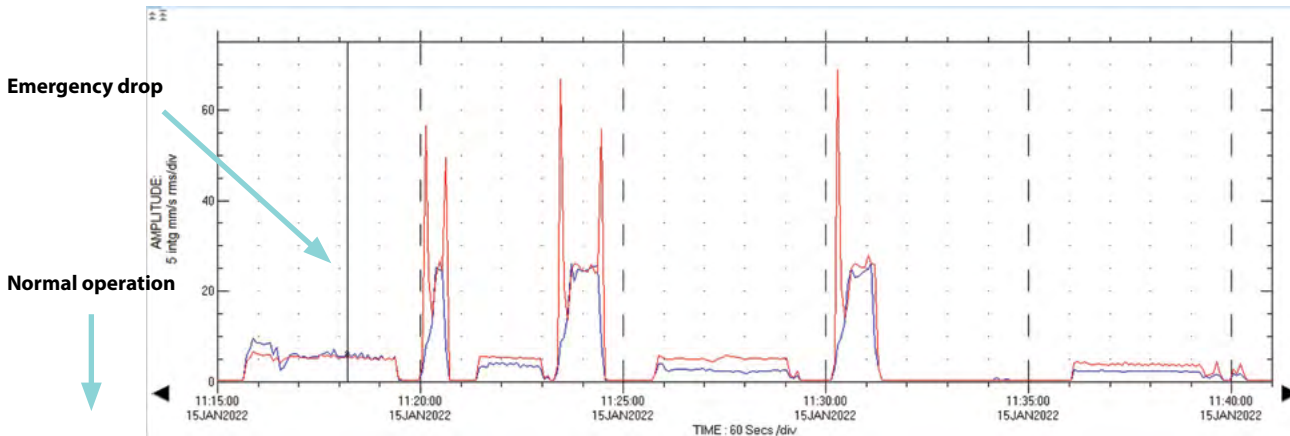

Figure 3: Overall Casing Vibration Trends at the Break Fan IB
Figure 2 shows the temporary accelerometers mounted on the break fan outboard bearing (OB). Similar setup was installed on the inboard bearing (IB). The initial setup did not include a keyphasor[®]. Figures 3 and 4 are the overall casing vibration trends at the fan IB and OB, respectively, during normal and emergency operation.